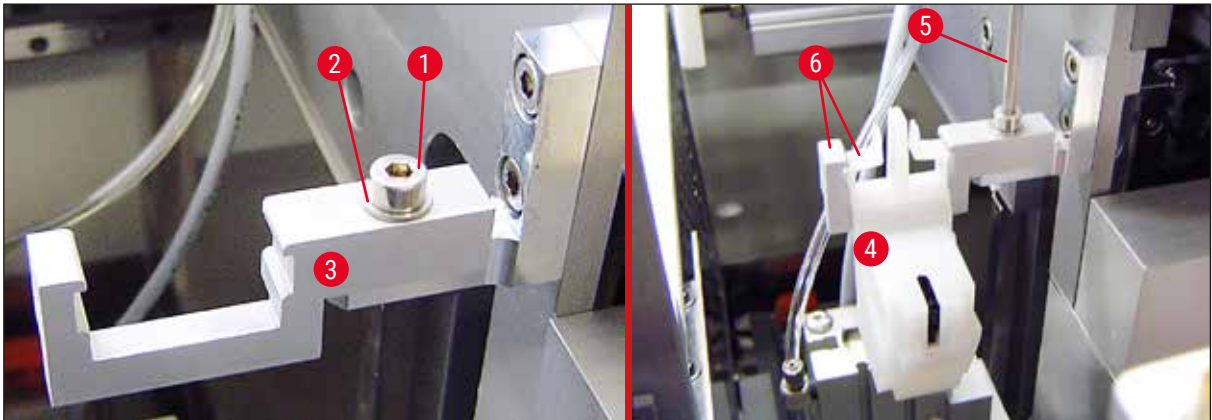

Fig. 22
4. Insert the completely assembled dispenser needle cleaner (→ Fig. 22-4) into the holder as shown in (→ Fig. 22). Press down to ensure that the two lateral mounting clips (→ Fig. 22-6) audibly engage in the notches of the bracket.